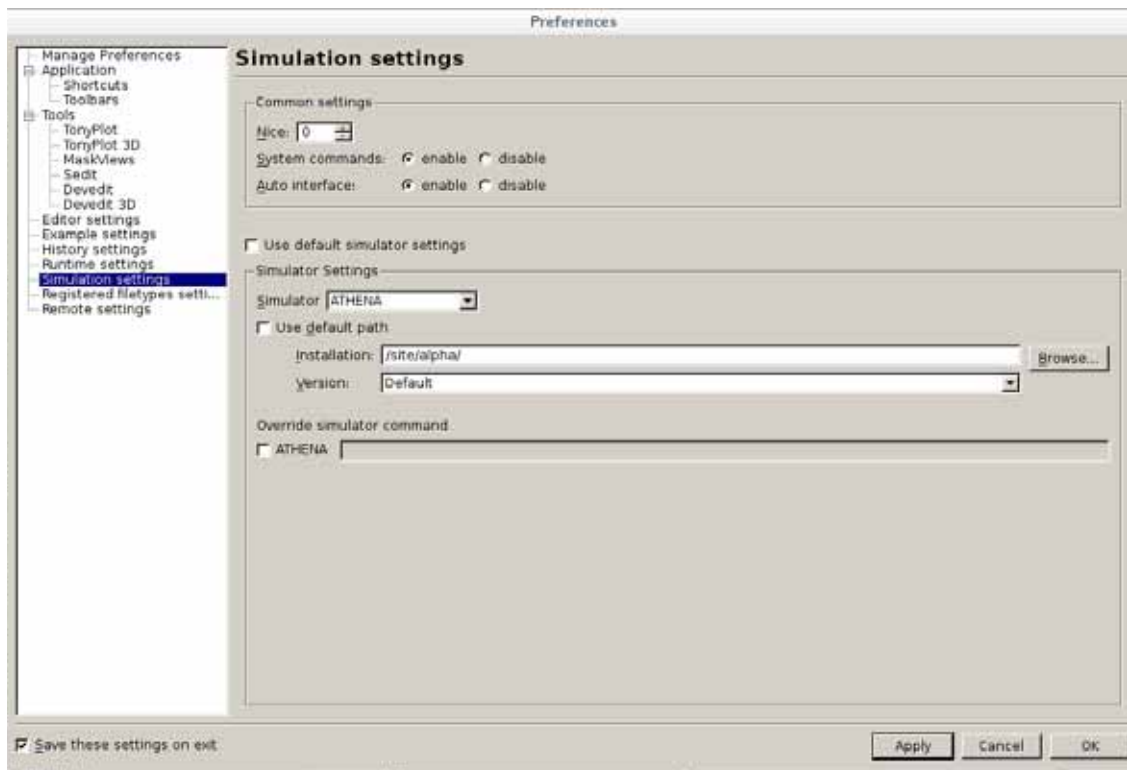
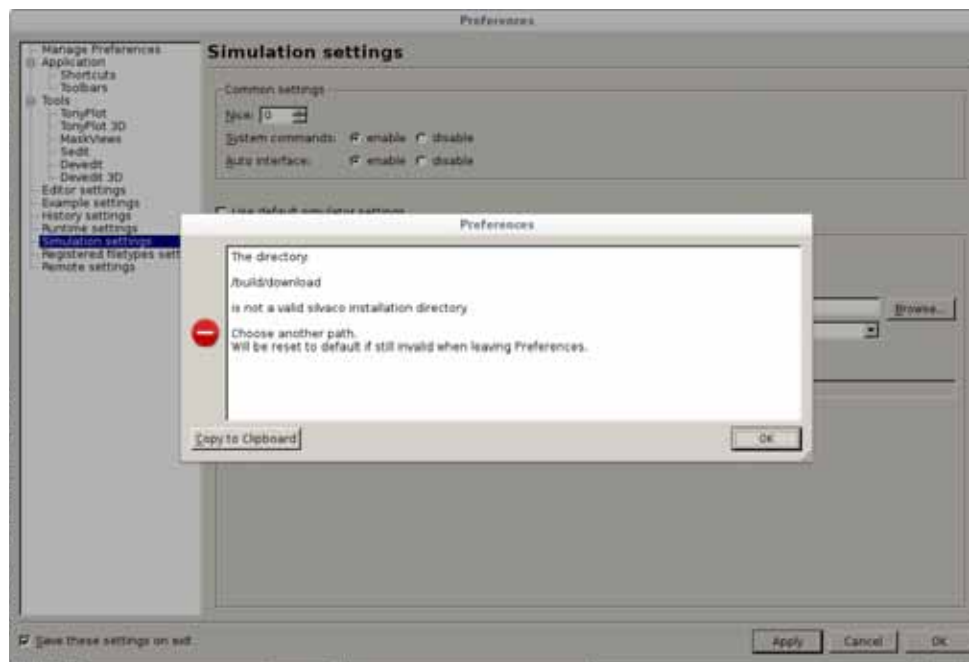

Figure 3-90 Selecting an Installation Path
Figure 3-91 Illegal Installation Path Selected
- Change the path of where a simulator is started from. If you click on the **Use default path** checkbox, then the path for the simulator is the same as where you started DeckBuild from. So if you installed your tools in, for instance, `/opt/silvaco`, then the simulators will be started exactly from there. If you happen to have several installations, for instance, to allow testing a particular release before installing it in the final location, then you can uncheck the **Use default path** box. This will enable the **Browse** button as shown in Figure 3-90. The selected directory needs to be a Silvaco installation. If you select a folder that does not contain the silvaco installation a dialog will appear (see Figure 3-91).